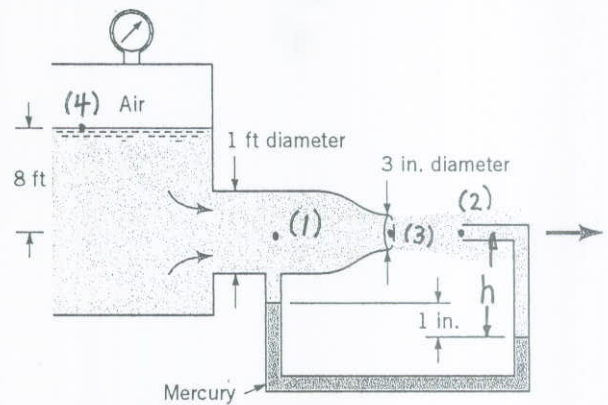

FIGURE P3.61
3.61 Water flows steadily from a large, closed tank as shown in Fig. P3.61. The deflection in the mercury manometer is 1 in. and viscous effects are negligible. (a) Determine the volume flowrate. (b) Determine the air pressure in the space above the surface of the water in the tank.